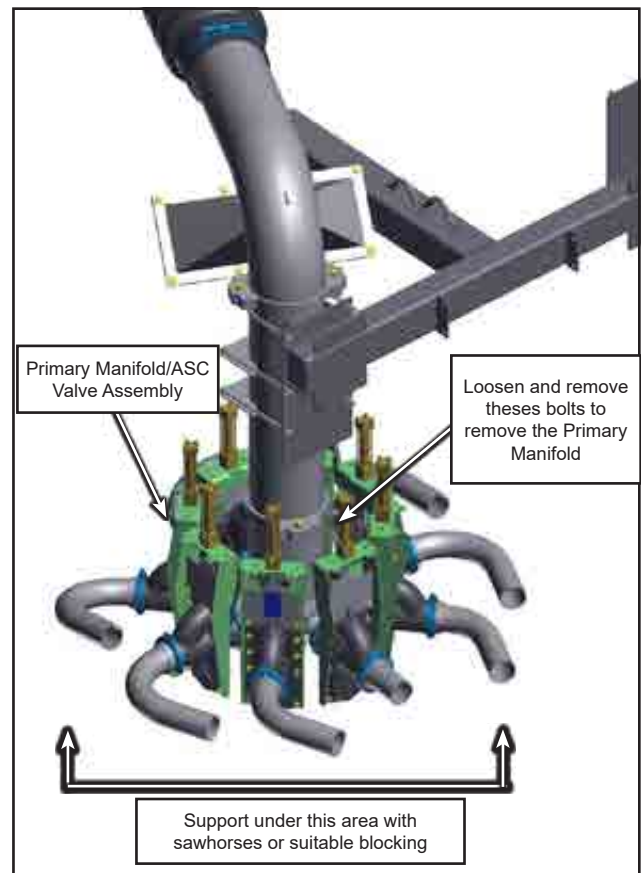

Figure 1.18 - Primary Manifold - Removal
5. To replace the inserts, the primary manifold will have to be unbolted from the bottom of the vertical pipe. Refer to *Figure 1.18*.
- c. Loosen and remove the bolts shown in *Figure 1.18*.